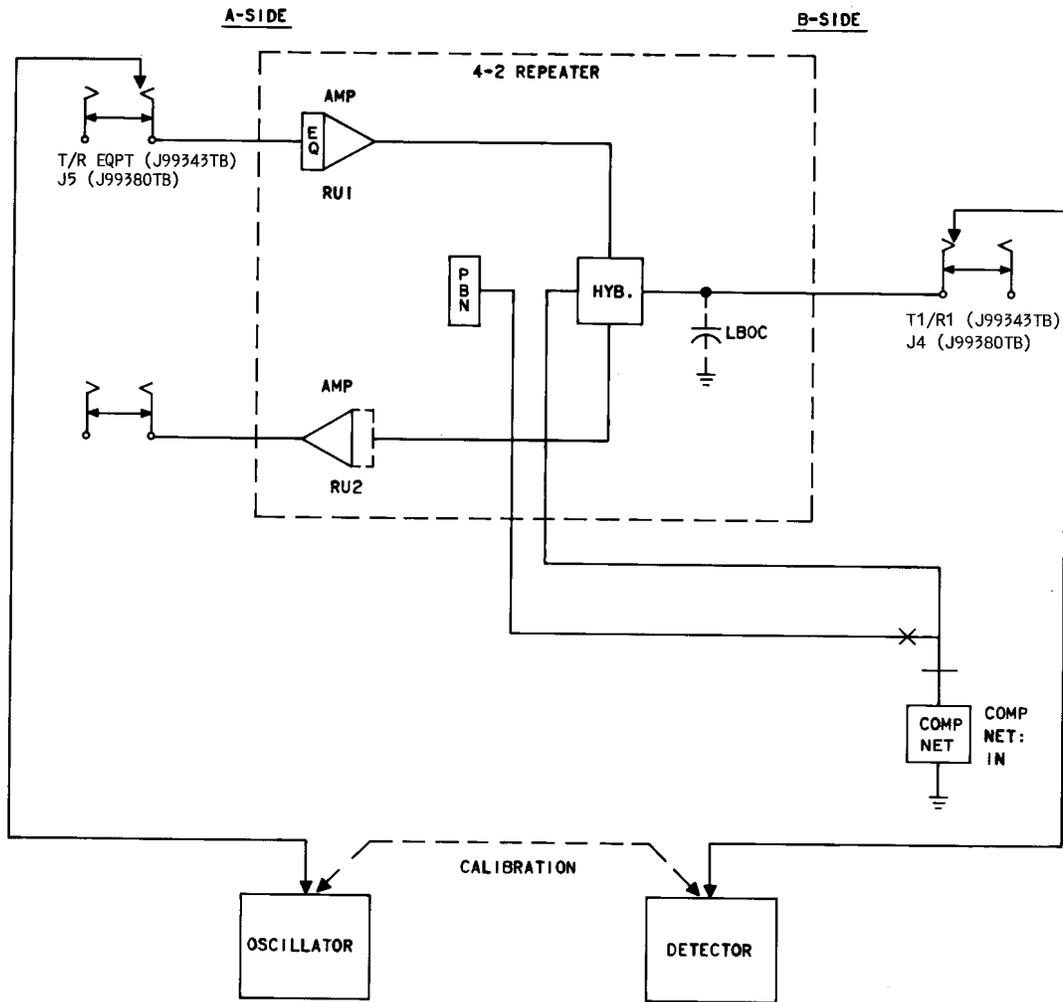
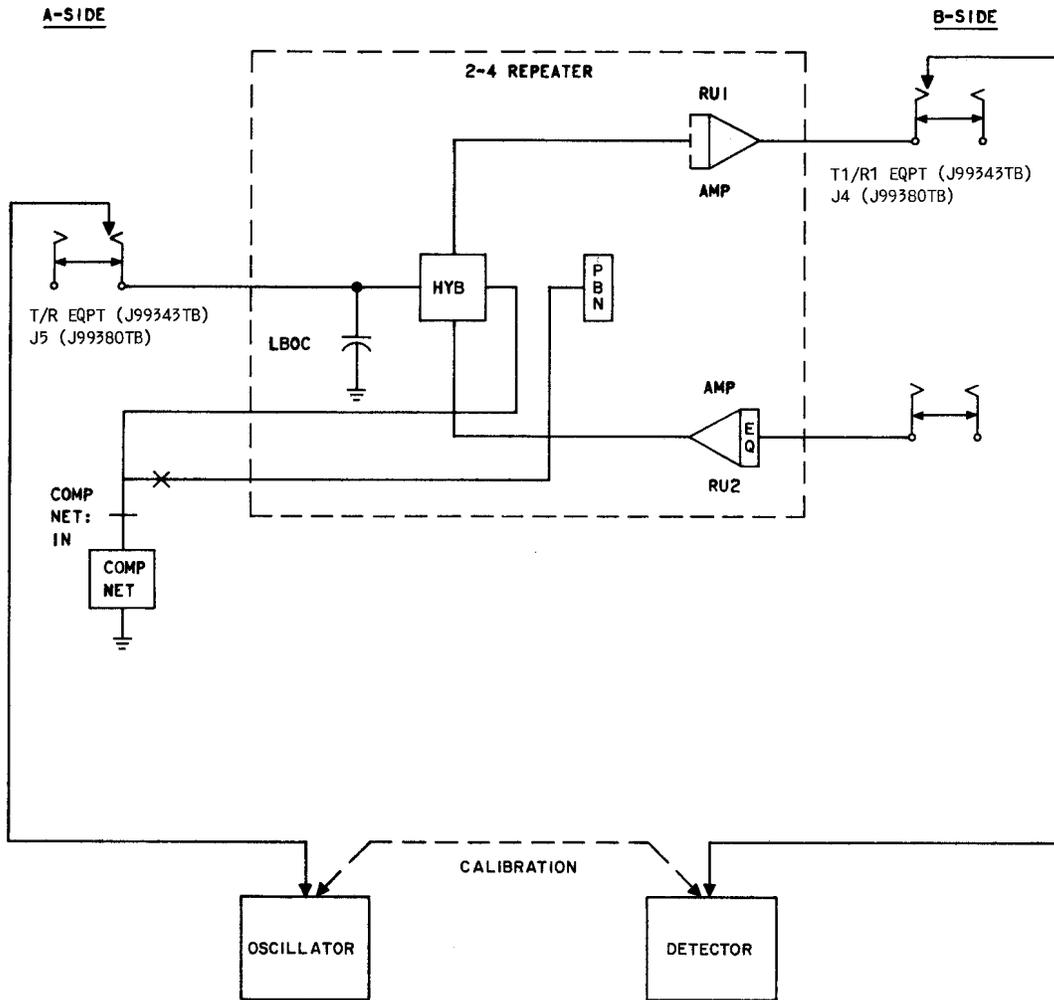

Fig. 16—Test Configuration For Adjusting the 4-2 Repeaters For a Specified Gain
Fig. 17—Test Configuration For Adjusting the 2-4 Repeaters For a Specified Gain
8.12 The test configuration for the 4-2 repeaters is shown in Fig. 16 and the configuration for the 2-4 repeaters is shown in Fig. 17.
- 6 Connect oscillator and detector to the test extender (refer to Fig. 16). Adjust repeater gain to measure 0 dBm on the detector. It may be necessary to operate a gain range (GN) switch to add -10 dB or +10 dB to the potentiometer gain in order to obtain the 0 dBm reading on the detector.
6	Connect oscillator and detector to the test extender (refer to Fig. 17). Adjust repeater gain to measure 0 dBm on the detector. It may be necessary to operate a gain range (GN) switch to add -20 dB, -10 dB, or +10 dB to the potentiometer gain in order to obtain the 0 dBm reading on the detector.